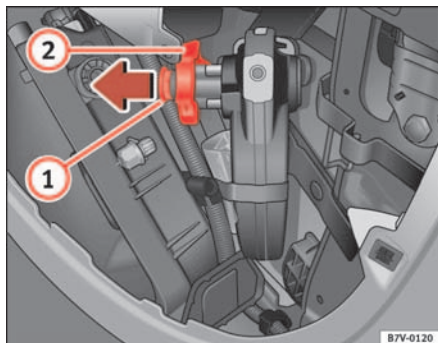

Fig. 135 Location of towing bracket
- Open the lock by turning the key ⇒ fig. 135 ① clockwise.
- Take out the wheel completely ② in the direction of the arrow and turn clockwise to the maximum.